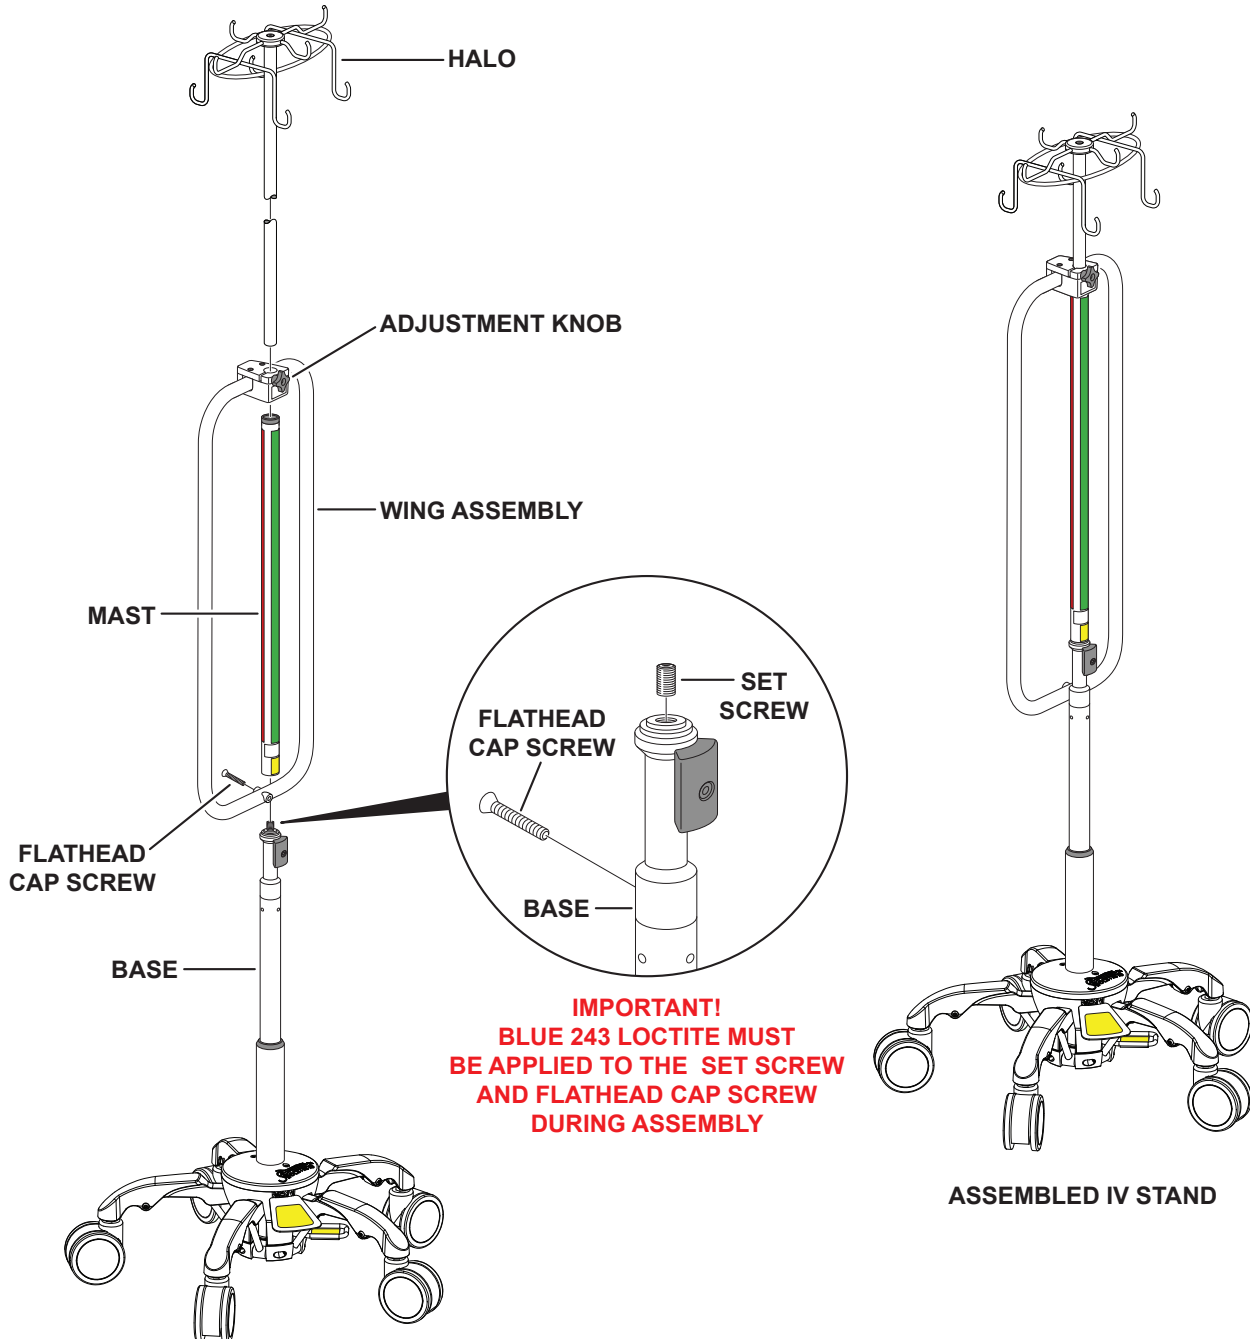

Figure 2. IV Stand Assembly
1. Remove base with wheels. Apply blue 243 Loctite to threads of the 1/2"-20 x 1/34" long set screw. Using a 1/4" Allen wrench, thread set screw into top of base (Figure 2).
Routinely check the flathead cap screw securing the wing assembly to the base is tight (Figure 2). If necessary remove the screw and reapply blue 243 Loctite to the threads at six month intervals.